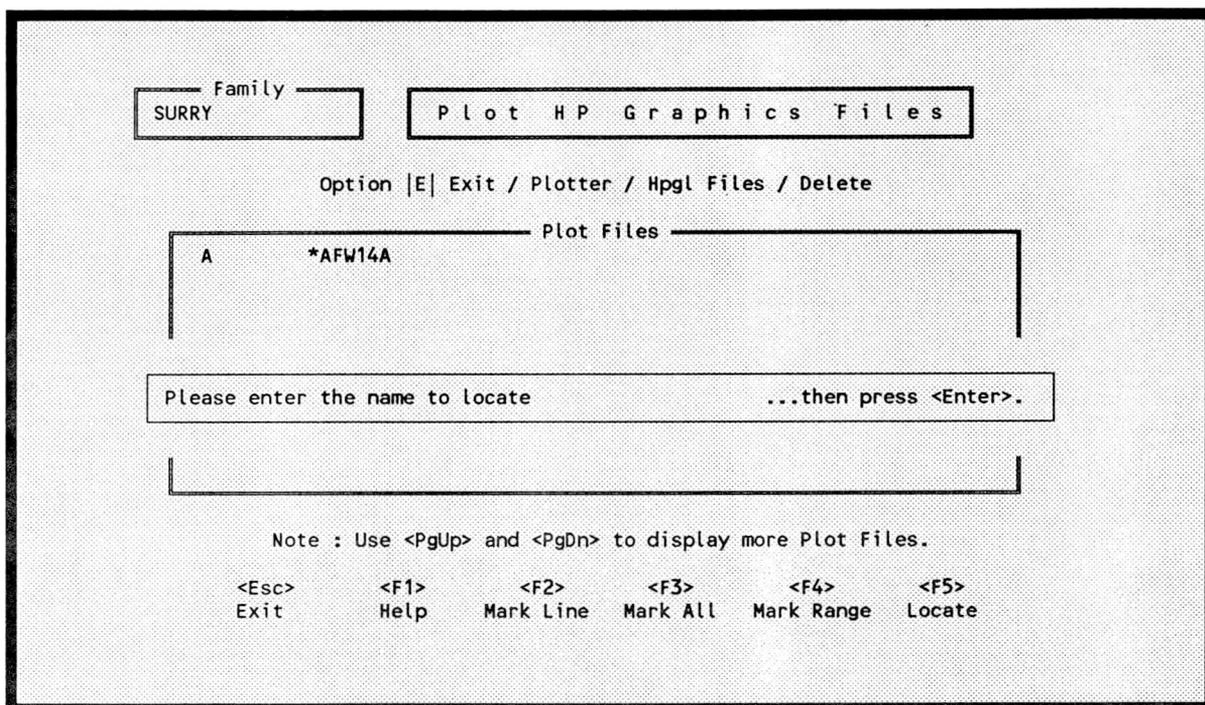

Figure 22. Locate a specific file prompt.
- <F5> - Allows you to locate a specific file for further processing. When you invoke this function, Figure 22 will be displayed. Enter the file name to locate and press <Enter>. The specified file will be highlighted. If the file name does not exist, an error message will be displayed, and you will be returned to the previous screen.